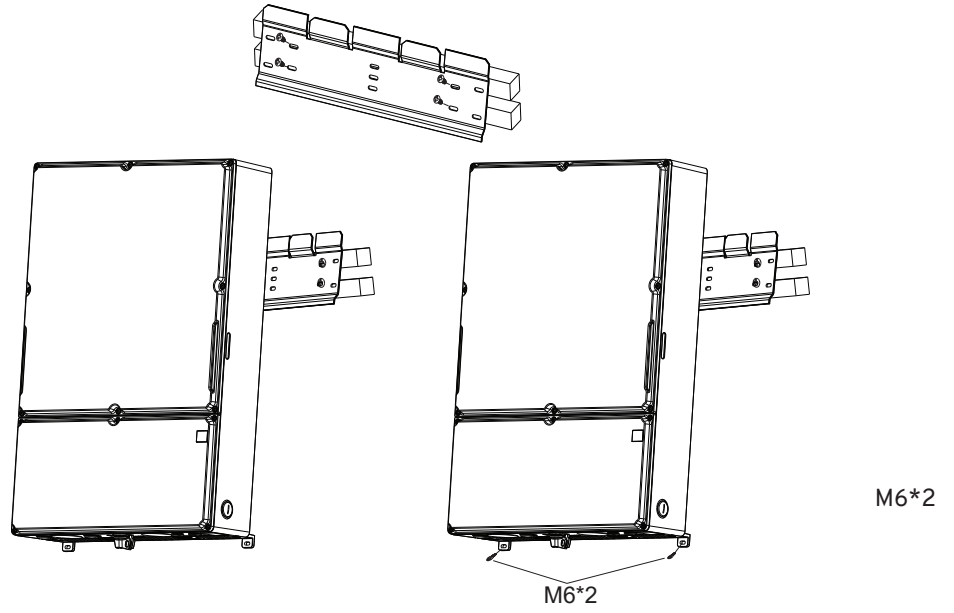
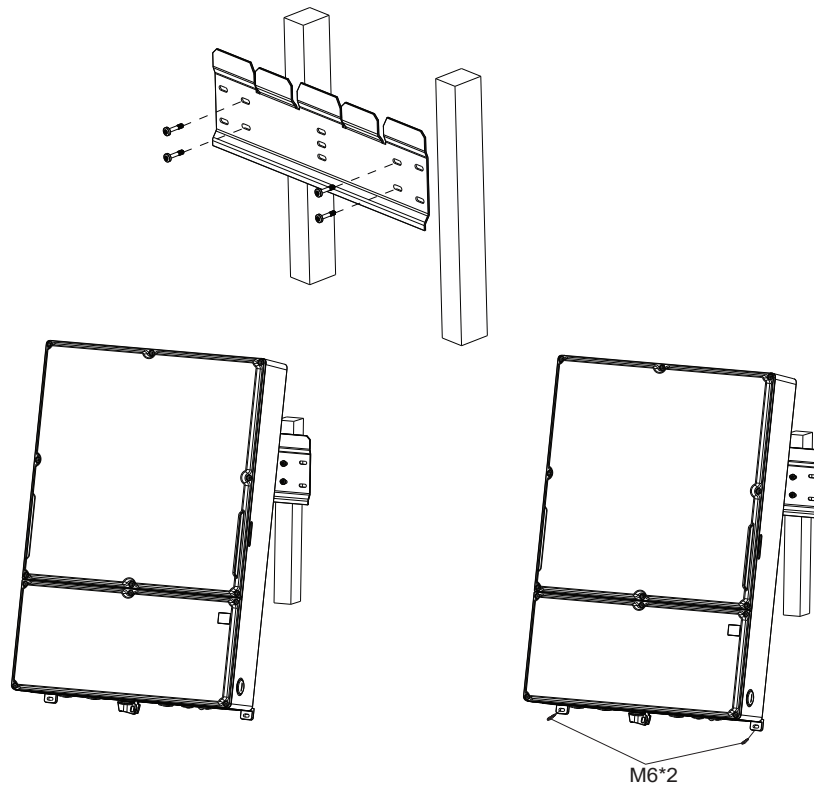

Figure 11: Installing the plate and GM Energy Inverter on a wood stud wall
Figure 12: Installing the plate and GM Energy Inverter on a wood stud wall
5. With at least one person on each side of the GM Energy Inverter, lift it up and place it carefully onto the mounting plate. Install two screws as shown in the figure 11/ figure 12 to secure the device.